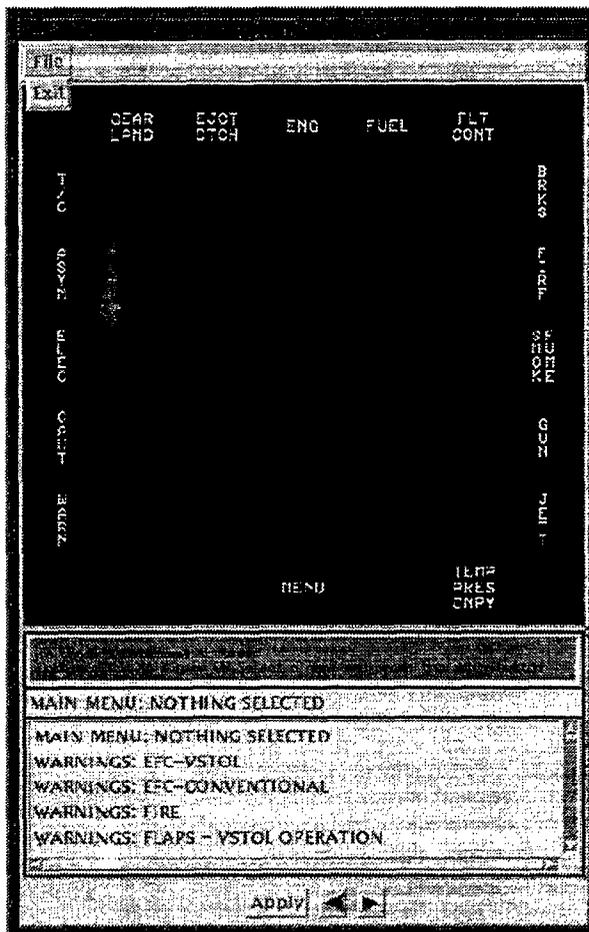
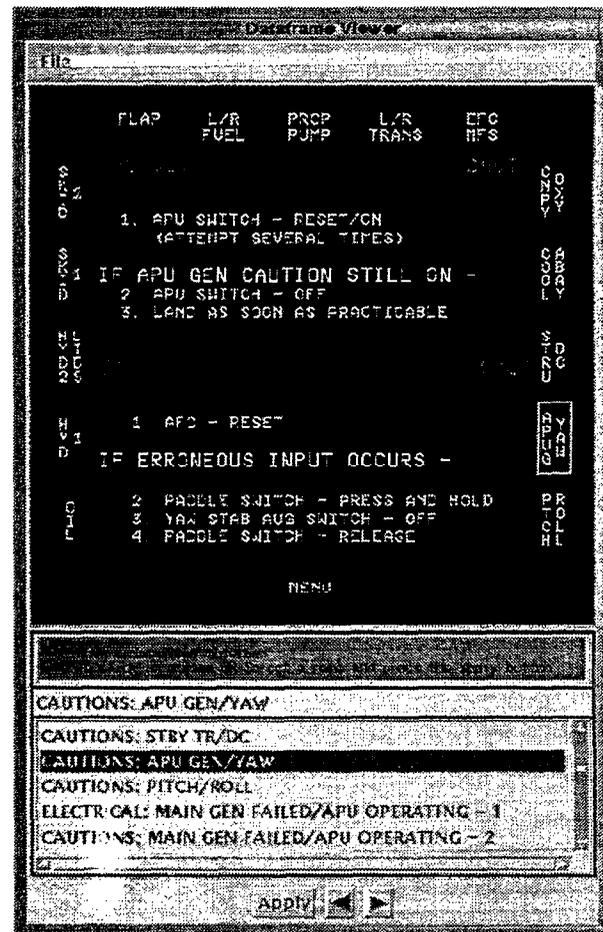

Fig. 46 — Data frame viewer window
Fig. 47 — Sample data frame
3.3.6.3.2 **View Data Frames**—MMC provides a function to view any data frames (including checklists) in the current AODI. First, open an AODI—containing checklists or other data frames—by clicking on *File* in the **MMC Window**, then *Open Image* (Sec. 3.3.1.4). Then click on the *Tools* menu, *Data Frames Options*, *View Data Frames* to start a **Data Frame Viewer Window** listing all data frames in the current AODI (Fig. 46). To view a data frame, scroll through the list with the scroll bar (at the right of the list) and double-click (with the left mouse button) on the desired file name or use the arrows at the bottom of the window to scroll through the list, displaying each data frame in turn (Fig. 47). To exit from this window, click on *File*, then *Exit*.